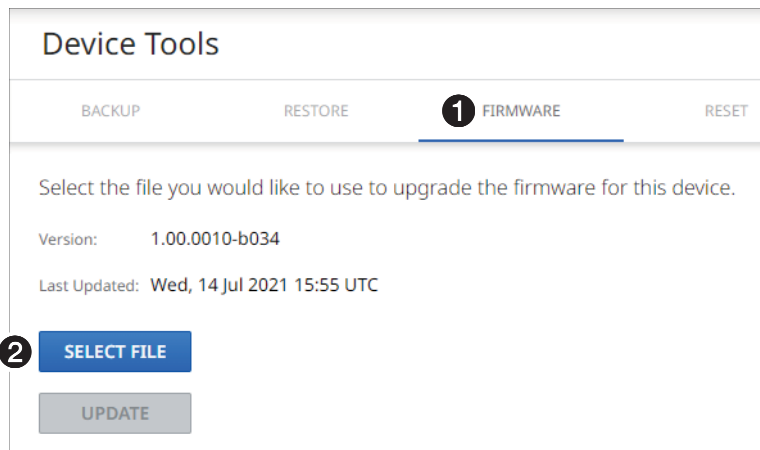

Figure 31. Tools – Firmware Function
1. On the Device Tools page, click **Firmware** (see figure 31, ❶).